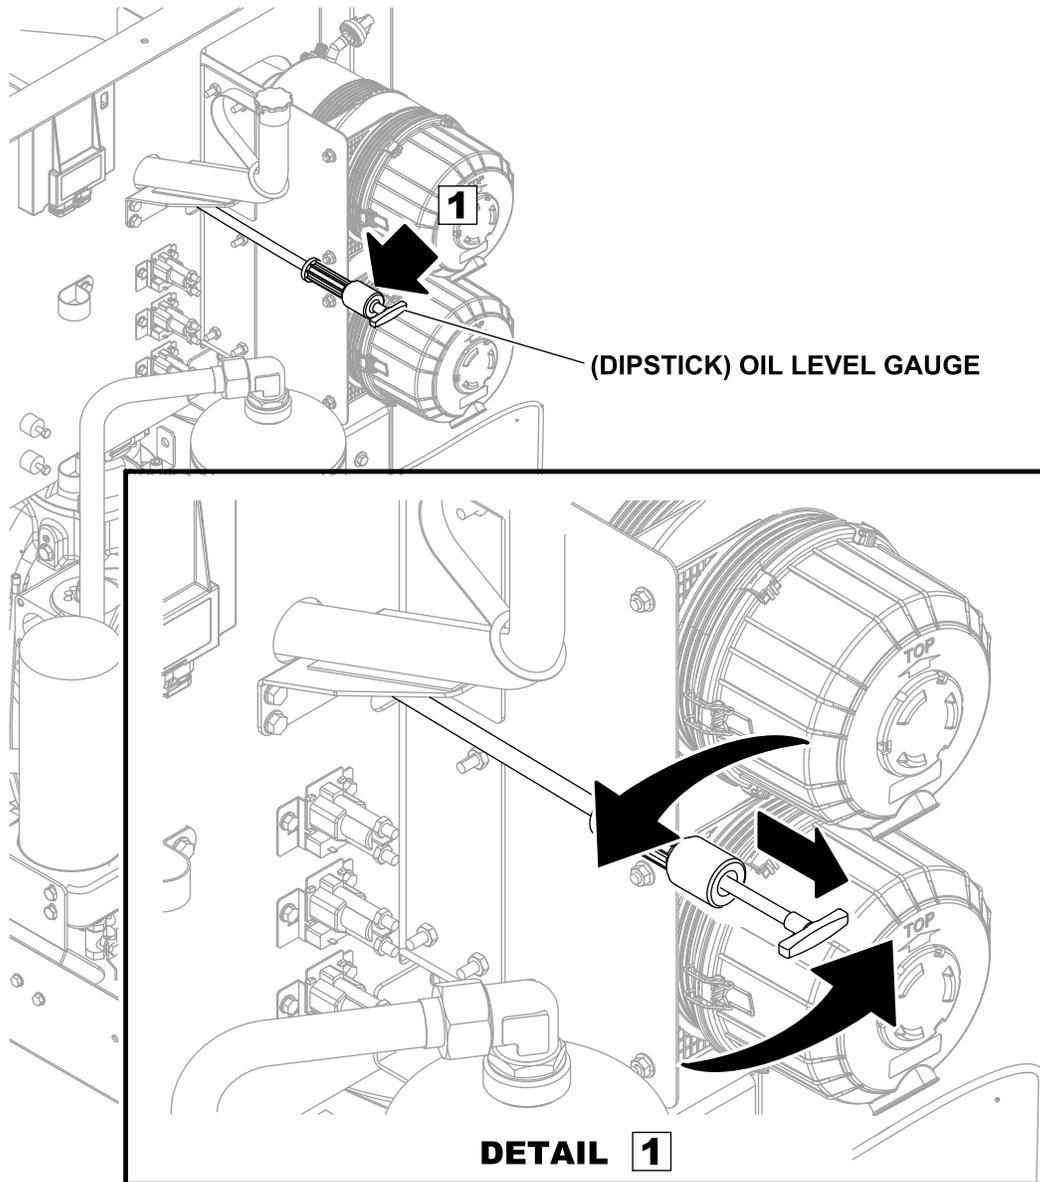

FIGURE 4-2: ENGINE OIL LEVEL GAUGE (DIPSTICK)
3. Pull the handle of the oil level gauge (dipstick) forward and out (See Figure 4-2).
7. Completely remove oil level gauge (dipstick). Helps the oil flow when draining.(Figure 4-2).